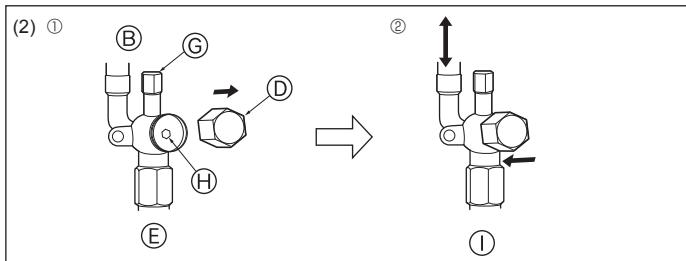

Fig. 4-13
- ① Remove the cap, pull the handle toward you and rotate 1/4 turn in a counterclockwise direction to open.
- ② Make sure that the stop valve is open completely, push in the handle and rotate the cap back to its original position.
- (2) Liquid side (Fig. 4-13)
- ① Remove the cap and turn the valve rod counterclockwise as far as it will go with the use of a 4 mm hexagonal wrench. Stop turning when it hits the stopper. (ø6.35: Approximately 4.5 revolutions) (ø9.52: Approximately 10 revolutions)